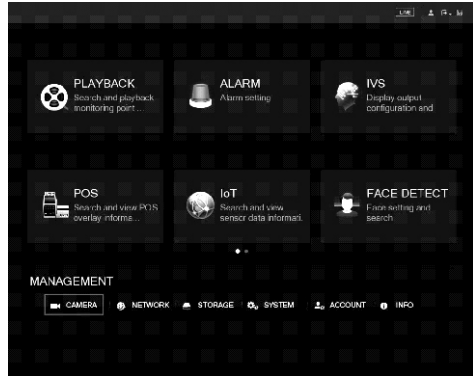

Figure 4-2
The Main Menu interface is displayed. See Figure 4-2.
Step 1 In the Main Menu interface (Figure 4-2), select **CAMERA > ENCODE > Encode**.